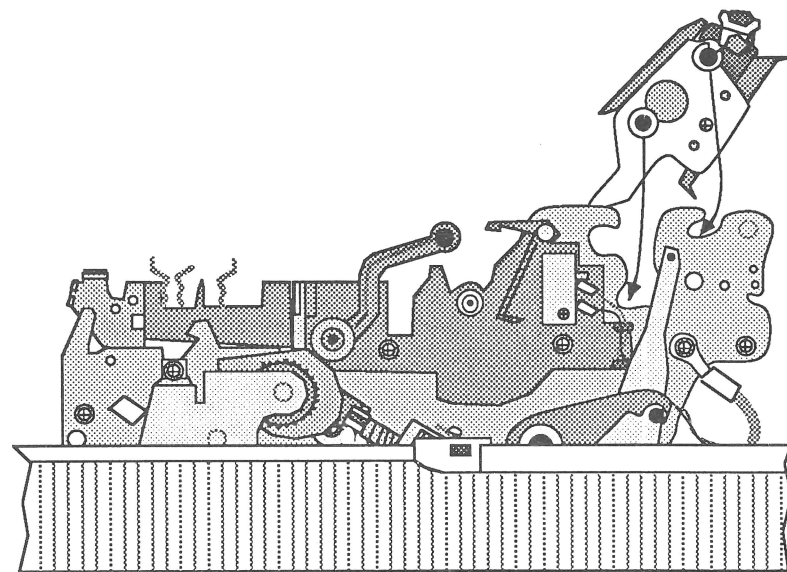

FIGURE 11
1. Align the four posts on either side of the tractor assembly with the slots in the mechanical assembly (Figure 11), and lower the tractor into position.